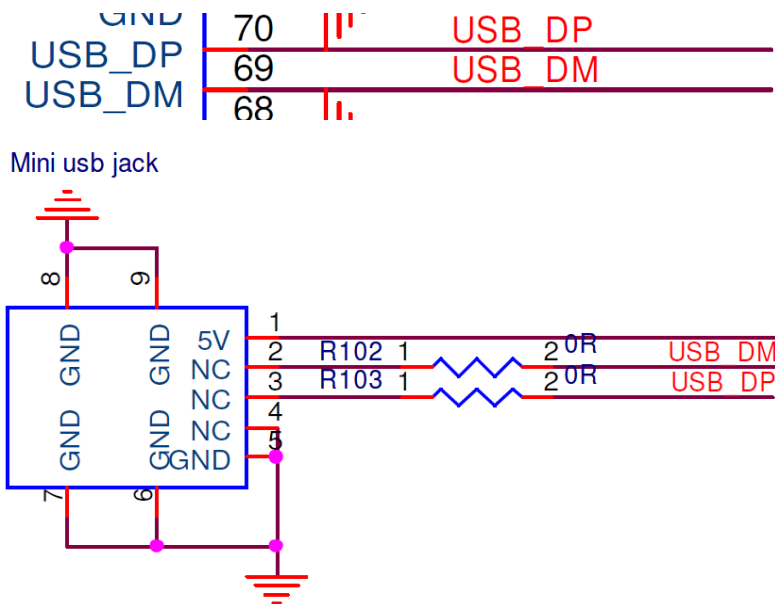

Figure5. Bluetooth verification connection interface to Host USB
- ❖ Refer to Figure5 USB pin definition connects the J9 interface of AP6356SDXX evaluation board to Host USB control interface.